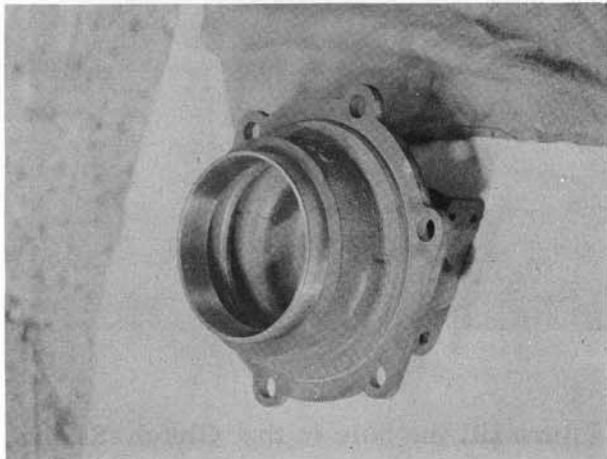

Figure 40
16. Place Bearing Cup (RB-123-394A) in the two speed axle housing as shown in Figure 40.